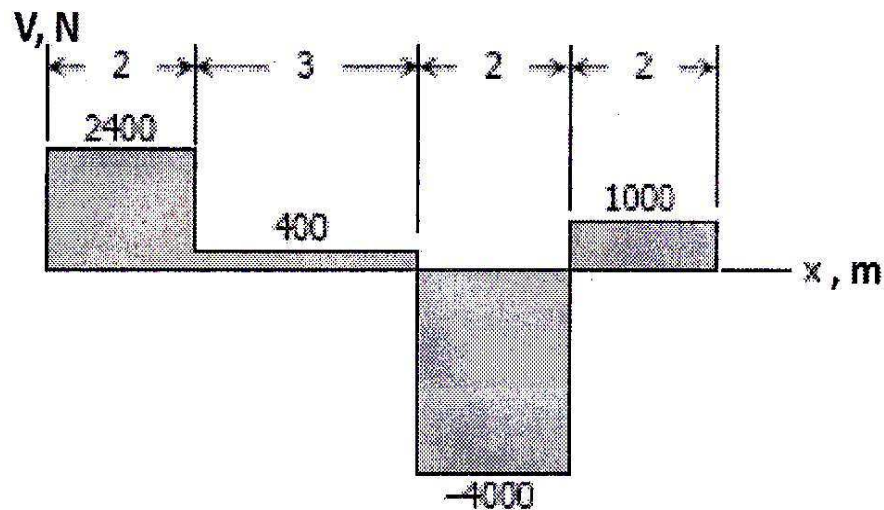

Fig. 2
- (b) Draw moment and load diagrams corresponding to the shear diagram as shown in Fig. 2 below. Specify values at all change of load positions and at all points of zero shear. [6]